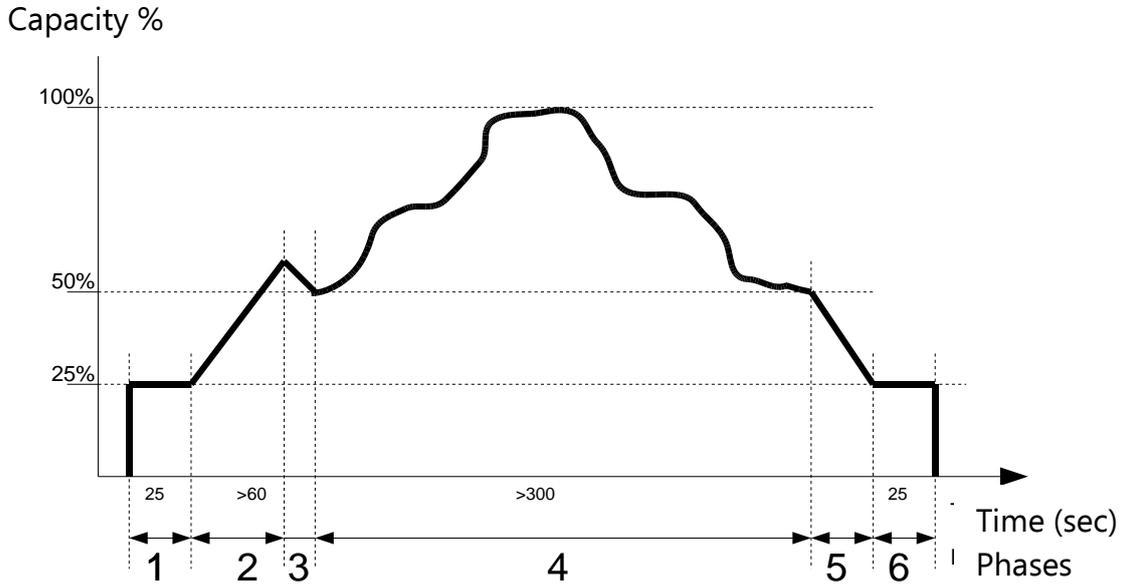

Fig. 25 Logic control of solenoid valves for stepless configuration
Cooling capacity control is obtained using solenoid valves (14),(15) and (19) which have to be excited according to logic control shown in Fig. 25 and Table 12.